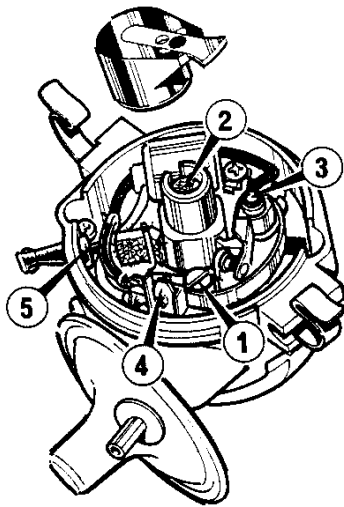

Figure 6 Distributor - general view
3. Slacken the slotted head screw in the contact plate and adjust until the gap is 0.38 mm (0.015 in) (**Figure 6**). The gap is measured with a suitable feeler gauge and pressure should be applied to the points, with the feeler gauge inserted, whilst the screw is being tightened.